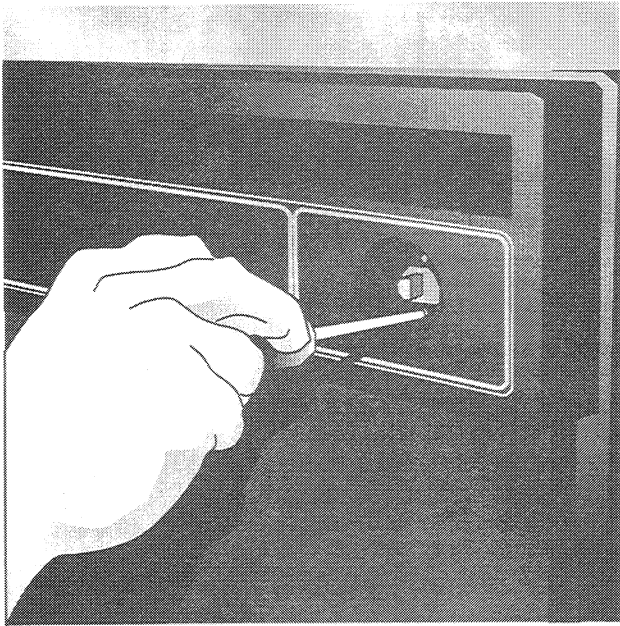

Figure 2
4. Remove front two screws securing timer to control panel. (See Figure 2.)